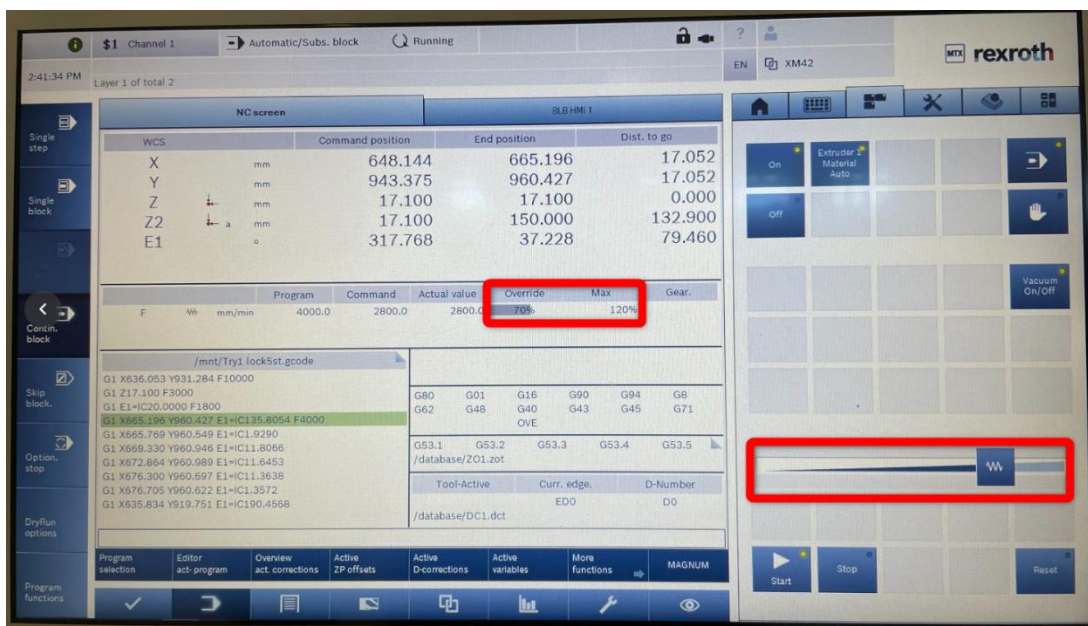

Figure 32
- Check that the speed bar is not in the left-most position. The speed is shown in the column "Override" (fig 32).